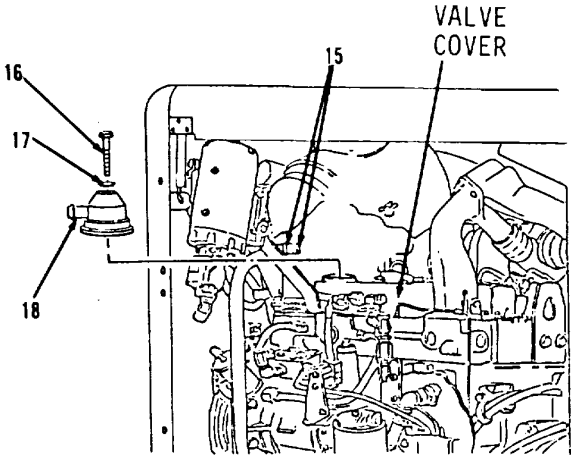

Figure 3-29.
- 40. Position breather (18, Figure 3-29) on valve cover.
- 41. Tighten two clamps (15).
- 42. Install bolt (16) and tighten to 10 ± 2 ft-lb torque.